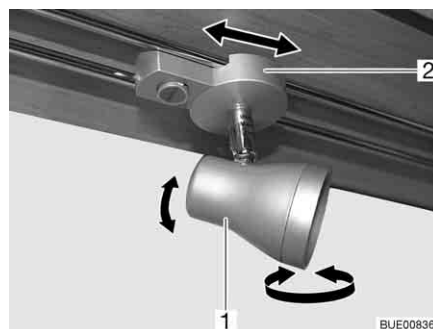

Fig. 57 Spotlight
Turning: ■ Grasp the housing (Fig. 57,1) and turn it.
- Grasp the holder (Fig. 57,2).